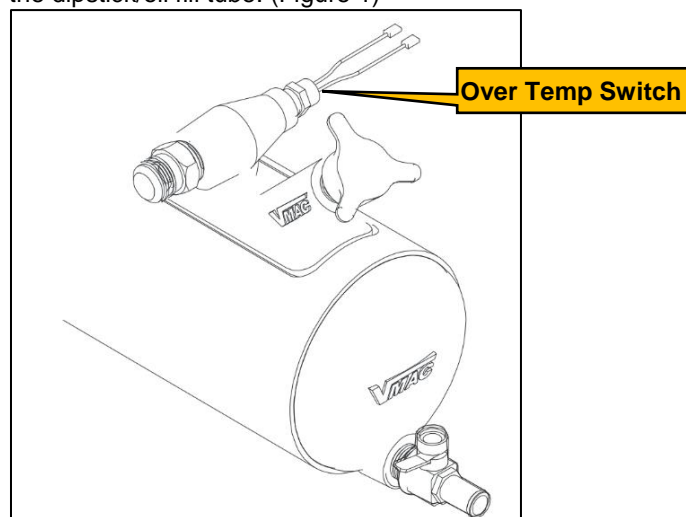

Figure 1
1. Slide open the inspection panel on the side of the welder. Locate the over temp switch on the air/oil separator tank (AOST) near the dipstick/oil fill tube. (Figure 1)